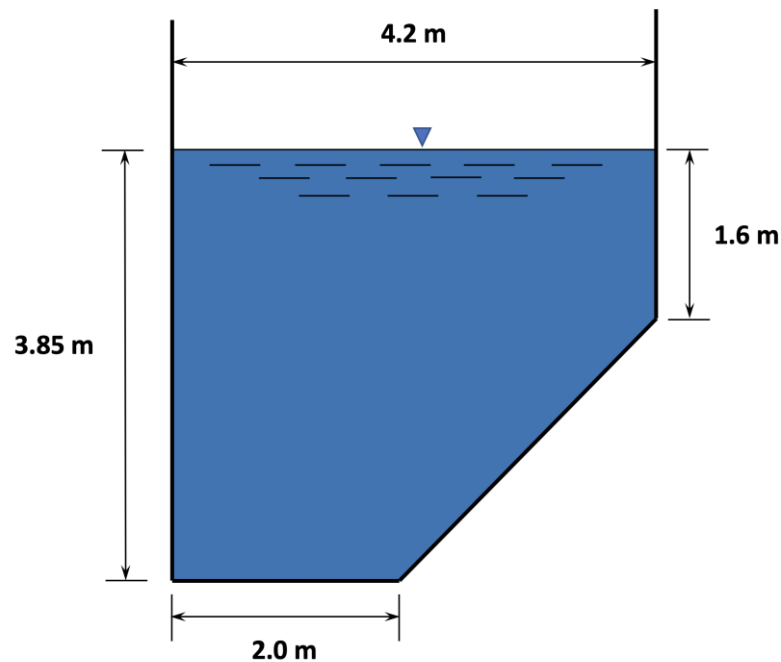

Figure 5/ Rajah 5
- (b). A float-finished concrete channel as shown in **Figure 5**, was designed for water to flow at a rate of  $40 \text{ m}^3/\text{s}$ . Determine the required longitudinal slope of the channel bottom per kilometer of length.